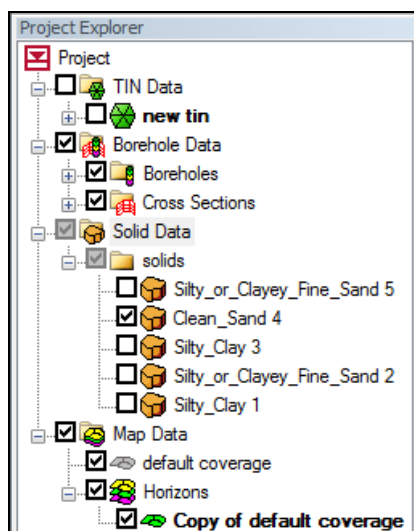

Figure 2. Project Explorer showing horizons conceptual model.
2. Drag the new coverage so that it is under the **Horizons** conceptual model , as shown in Figure 2. GMS will give you a warning that moving the coverage may change the attribute tables. Click *Yes* to dismiss the warning.